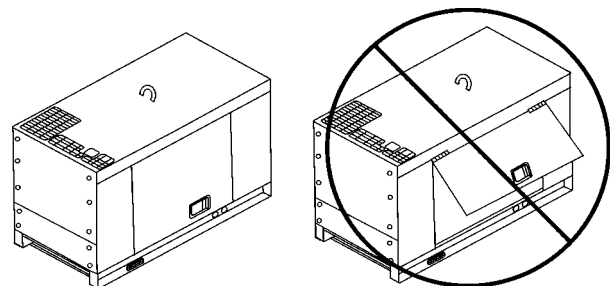

Figure 20. Doors in closed position
7. Always operate the welder with the doors closed (Figure 20). Operation with the doors open may cause insufficient cooling to the unit, and may damage the unit.